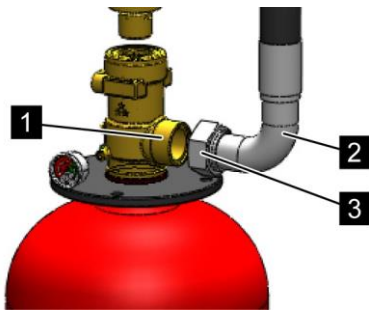

Fig. 193: Remove the hose
3. ➤ Unscrew the cap nut (Fig. 193/3) of the hose (Fig. 193/2) or connecting piece (for the version without hose) from the valve outlet (Fig. 193/1).
4. ➤ Attach the anti-recoil cap on the valve outlet (Fig. 193/1).